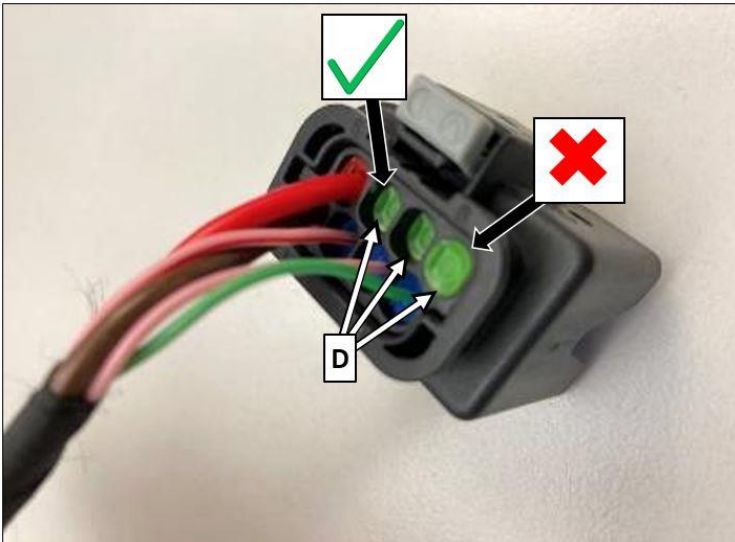

Figure 6
4. Check green blind plugs (D, Figure 6) on rear of plug.
5. **i** A green blind plug that is not seated correctly must be **pressed in further** as per Figure 6 (OK image).